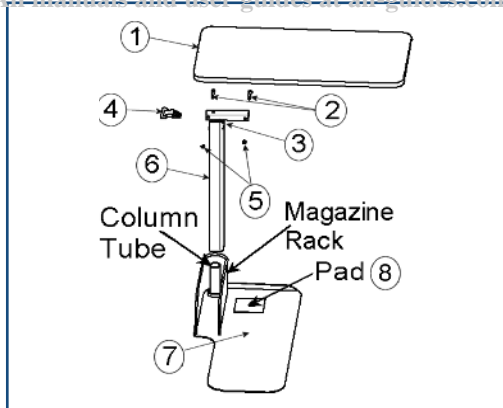

FIGURE 1
- Stand the Column (#6) on end, making sure the Trip Rod is visible in the rectangular tube but not protruding out of the top, as shown in Fig. 1. If necessary, shake the Column (#6) until the rod drops.
- Insert Trip Handle (#4) into the Column (#6) with the rounded side up. Be sure that the Trip Handle (#4) rests on top of the rod inside the Column (#6). Fig. 1